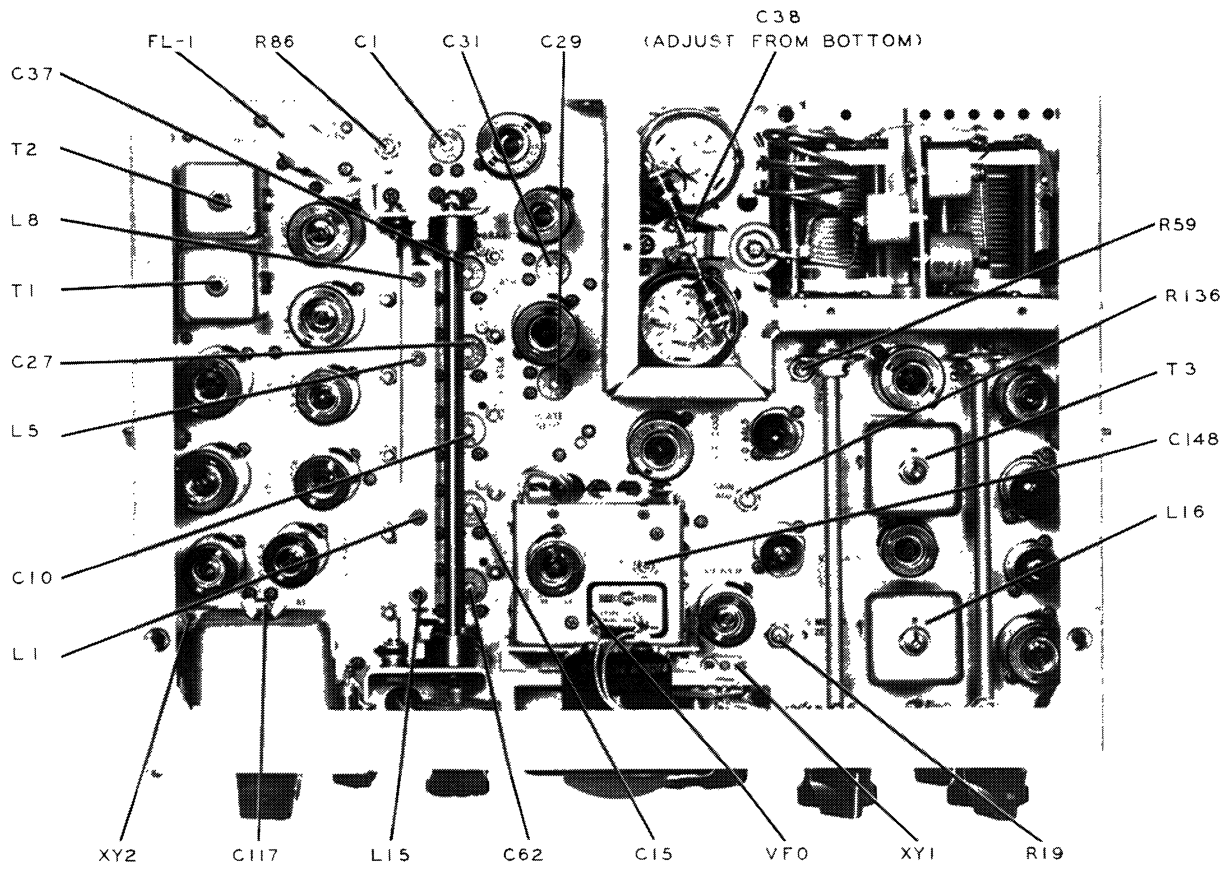

Figure 5-2. Location of Alignment and Neutralizing Adjustments
f. Using an insulated tuning tool, adjust the slugs of T1 and T2 for maximum meter indication. Figure 5-2 shows location of alignment and neutralization adjustments. Adjust MIC. GAIN counterclockwise to bring meter indication to S5 or less.
g. Set the KILOCYCLES dial at 0, and adjust L1, L5, L8, and L15 for maximum meter indication, continually adjusting the MIC. GAIN to keep meter indication at S5 or less. Figure 5-2 shows location of adjustments.
i. Using an insulated screw driver, adjust C15, C27, C37, and C62 for maximum meter indication, re-adjusting MIC. GAIN as necessary to keep meter indication at S5 or less. Refer to figure 5-2 for location of trimmer capacitors.